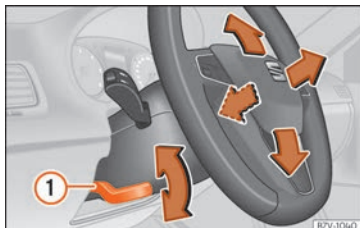

Fig. 5 Lever in the lower left side of the steering column.
- Pull the **»»» Fig. 5 ①** lever down, move the steering wheel to the desired position and lift the lever back up until it locks.
- After adjusting the steering column, push the lever **»»» Fig. 5 ①** firmly upwards to ensure the steering wheel does not accidentally change position while driving.